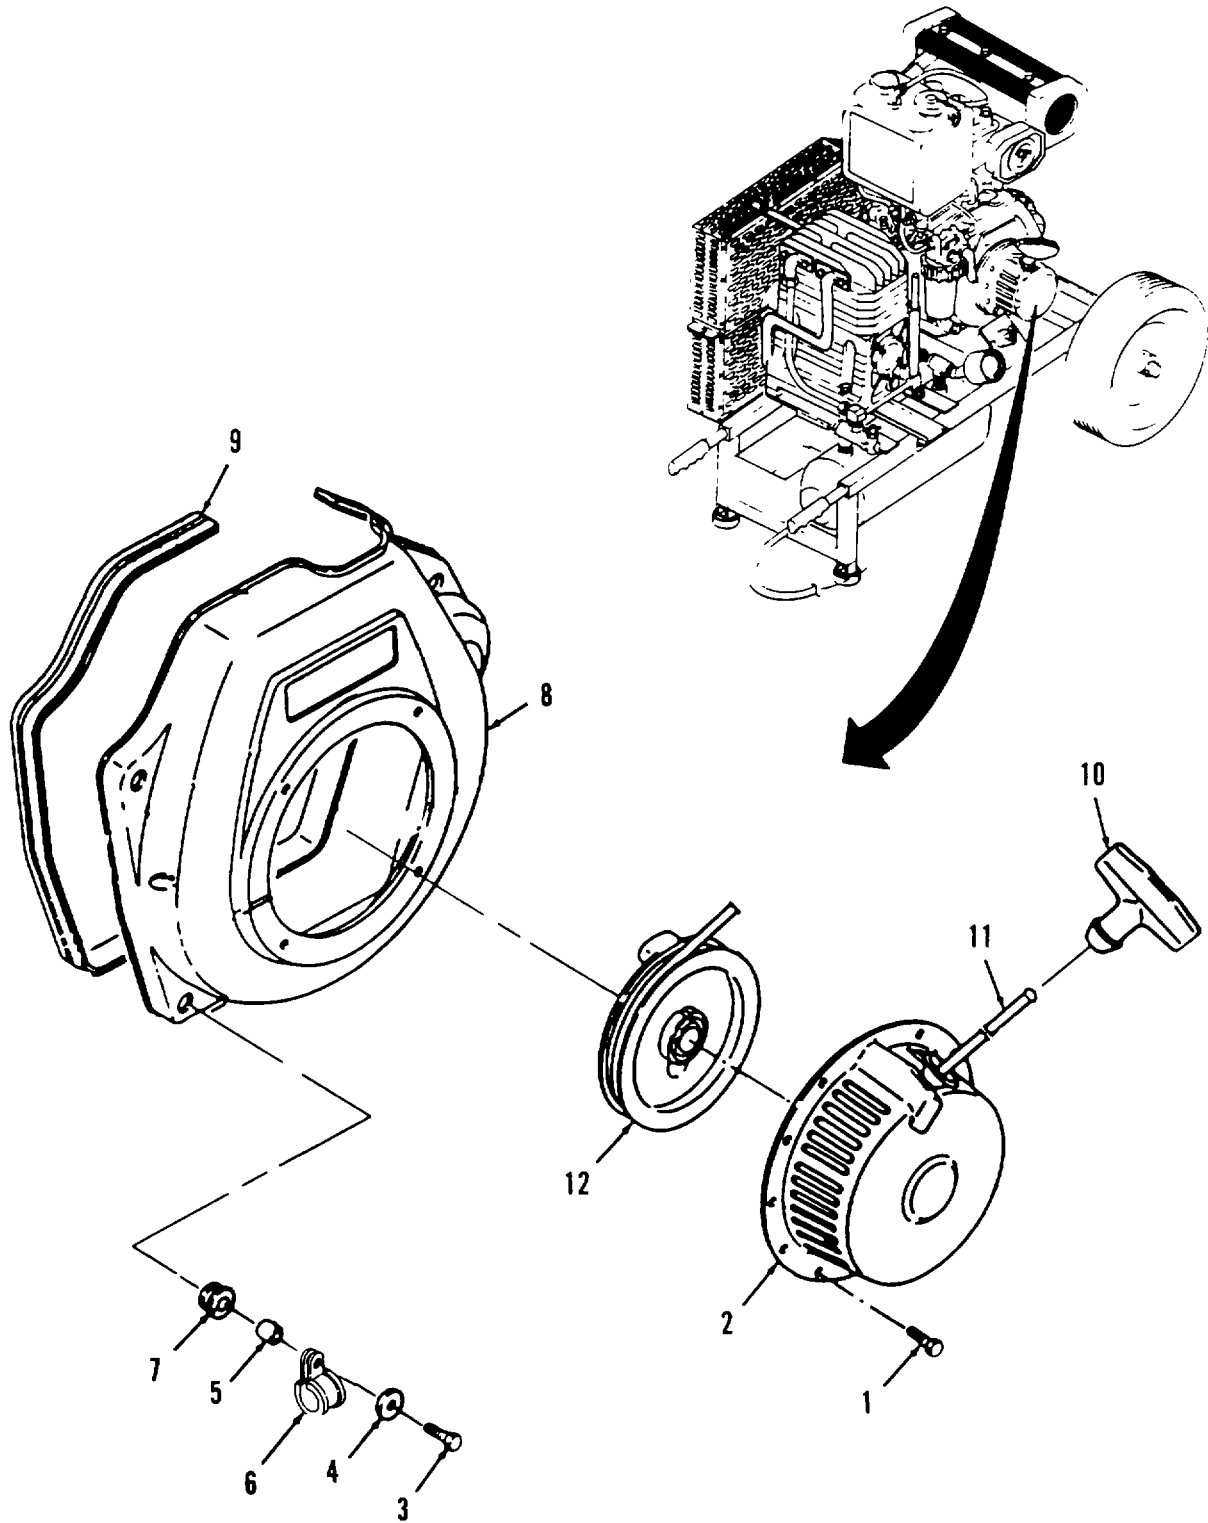

Figure 4-18. Recoil Starter and Flywheel Cover Repair and Replacement.
- a. **Removal** (Refer to Figure 4-18).